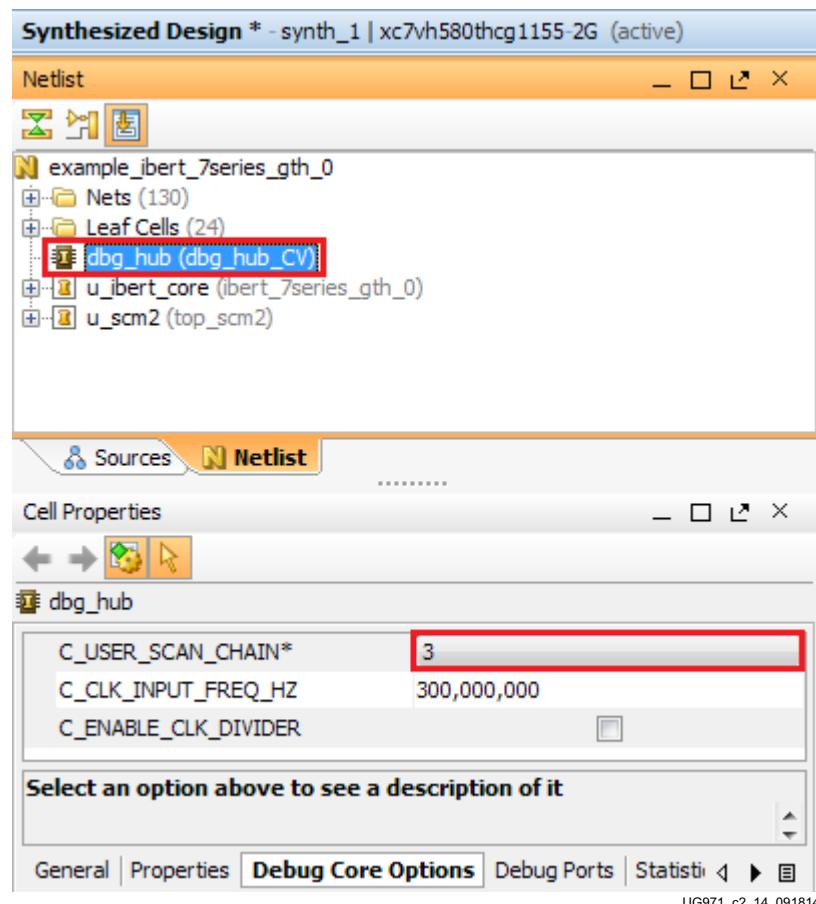

Figure 2-14: Debug Core Options for **dbg_hub**
16. When the Synthesized Design opens, select **dbg_hub** in the Netlist window, then select the **Debug Core Options** tab in the Cell Properties window. Change C_USER_SCAN_CHAIN* to 3 (Figure 2-14). Click **File > Save Constraints**.